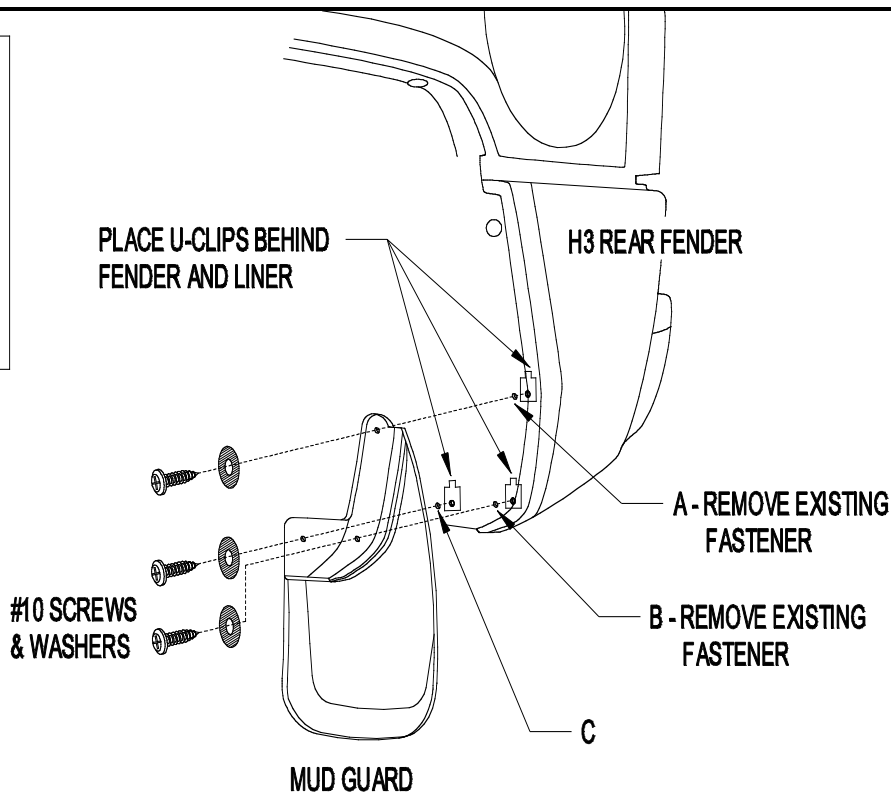

Figure 1
2. Remove existing fasteners from locations A and B (Figure 1).
3. Attach mud guard to rear fender with a #10 screw and washer, thru mud guard, fender / fender liner and into a U-clip on the backside of the fender liner at locations A and B (Figures 1 & 2). Check fit and level before tightening.